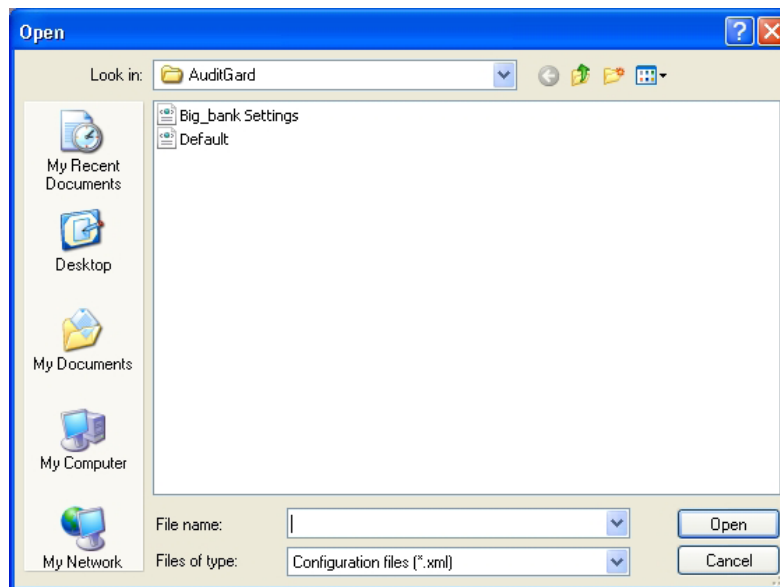

Figure 21
2. Select the desired audit file to view and click the **Open** button (Figure 21).